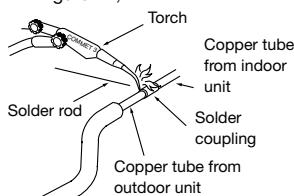

Figure 21
9. To braise the copper tube, before brazing a copper tube to a solder coupling or a copper tube to an expanded tube, do not forget to keep them tight as shown in Figure 21, 22.